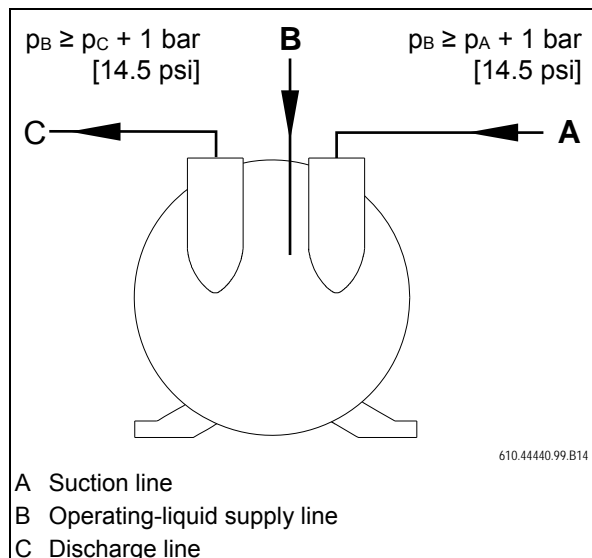

Fig. 13: Adjusting the operating-liquid flow-rate: setting the initial pressure
- Vacuum operation: adjust the initial pressure p_B in the operating fluid supply line (item B, fig. 13, page 20) by approx. 1 bar [14.5 psi] via the suction pressure p_A in the suction line (item A, fig. 13, page 20).
- Compressor operation: adjust the initial pressure p_B in the operating fluid supply line (item B, fig. 13, page 20) by approx. 1 bar [14.5 psi] via the compressor pressure p_C in the pressure line (item C, fig. 13, page 20).